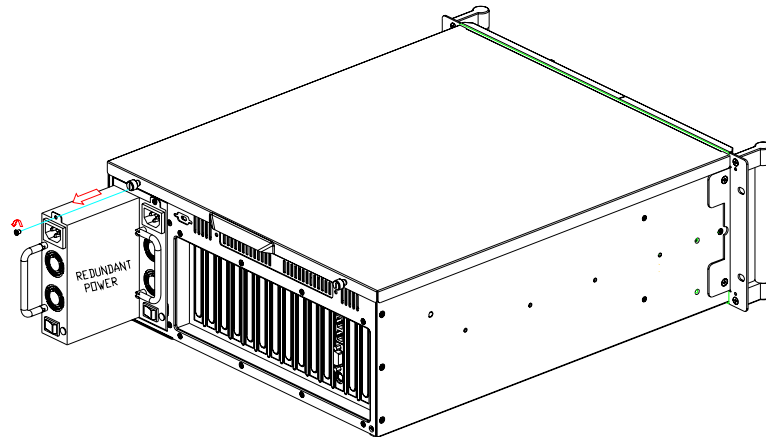

Figure 3.8 Replacing the power supply module
2. Loosen the screw on the failed module and then grab the handle to gently pull it out. (see Figure 3.8).